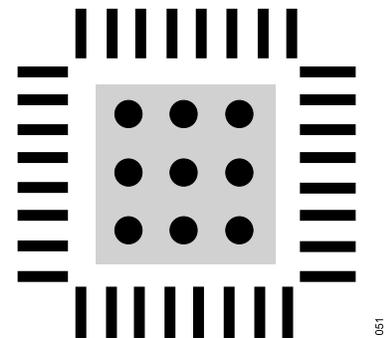

Figure 65. Exposed Pad Layout Example, Top View
- ▶ Vias should be placed to connect all layers of copper, allowing for efficient heat and energy conductivity. For an example, see Figure 65, which has nine vias arranged in a 3 inch  $\times$  3 inch grid in the pad area.